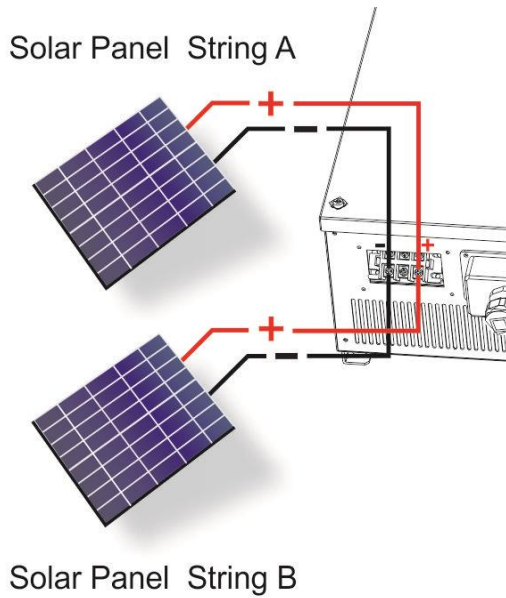

Figure 7
1. Two or Three strings that each of them in same numbers of solar panel array as shown in Figure 7.